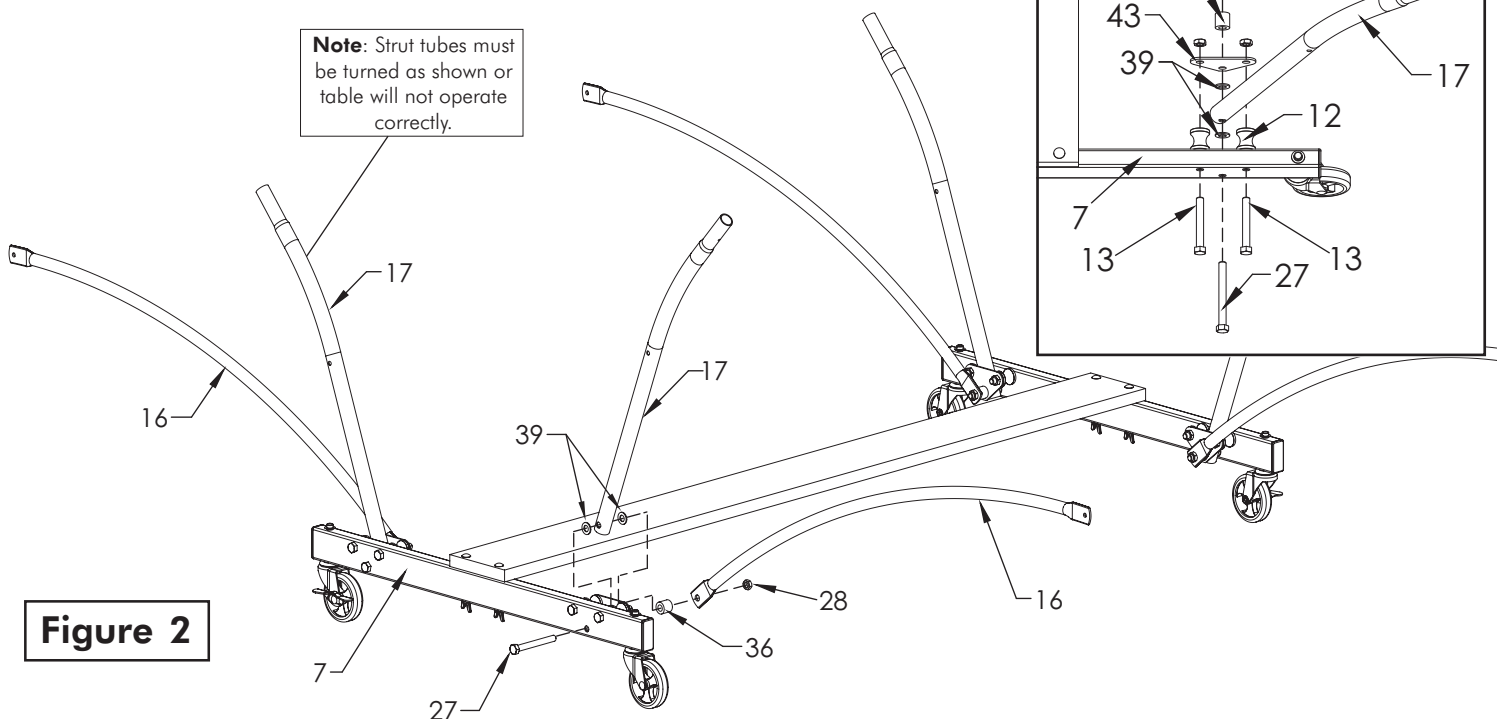

Figure 2
2. Attach Strut Tubes (#17) and Linkages (#16) to Caster Beam Assemblies (#7) as shown in **Figure 2**.
- a) Loosen Bolts (#13) and Nuts (#28) so that Strut Tube (#17) can fit between Support Plate (#43) and Caster Beam (#7) as shown in the **Top View** and **Figure 2**.
- b) Slide one Hex Bolt (#27) through Caster Beam (#7), one Plastic Washer (#39), Strut Tube (#17), Plastic Washer (#39), Support Plate (#43) Spacer (#36), Linkage (#16) and Locknut (#28) as shown in **Figure 2 Top View**.